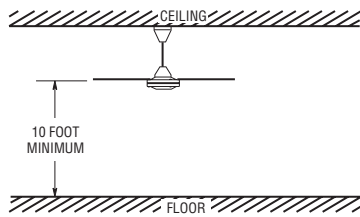

Figure 4
a. The fan must be hung with at least 10 foot of clearance from floor to blades. (See Figure 4).
The fan must be hung with at least 10' of clearance from floor to blades (Figure 4).